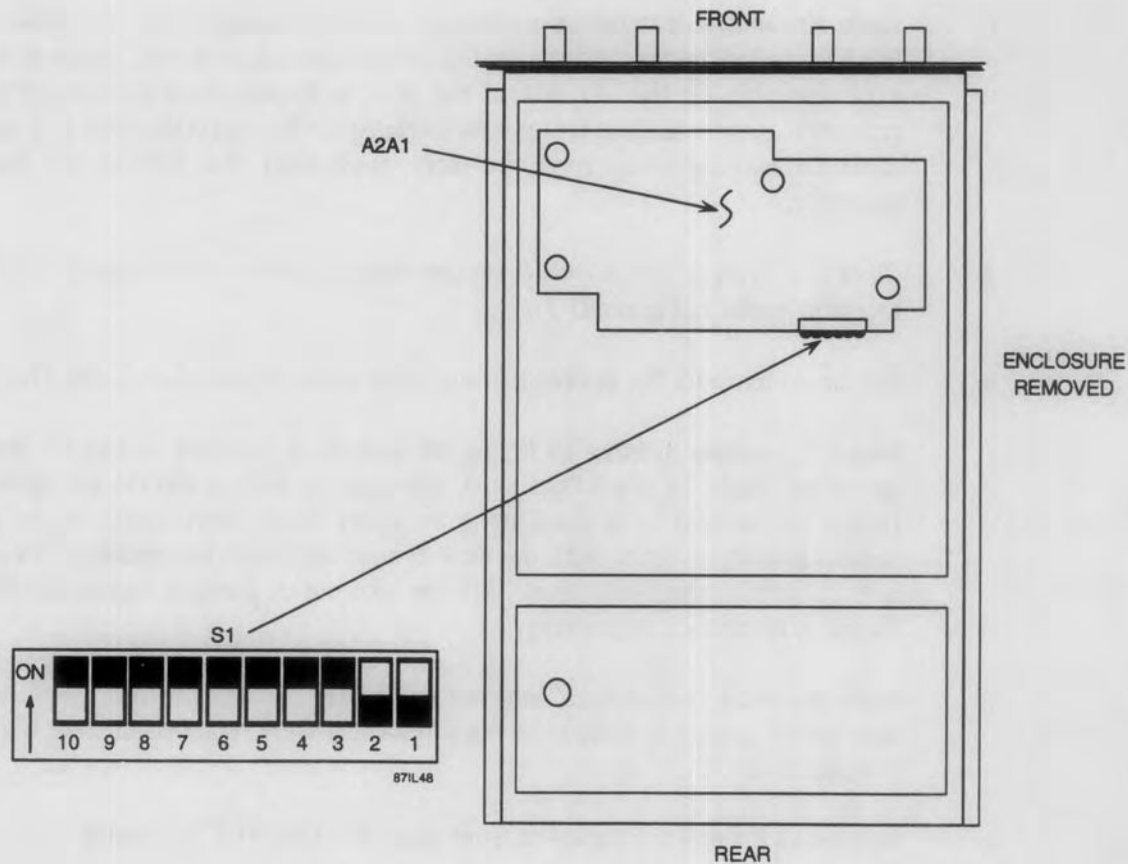

Figure D-3. Location of DSO1 DIP Switch S1 in the WJ-8710 and WJ-8710A
The DSO1 Digital Signal Output option processes and outputs signals in accordance with the settings of DIP switch S1 located on the Digital Signal Output PC Assembly (A2A1). See **Figure D-3, D-4** and **D-5**. The switch must be set in accordance with **Table D-2**.
- g. Place the receiver on the bench, bottom side up, and locate S1 on the A2A1 assembly (refer to **Figure D-3**).